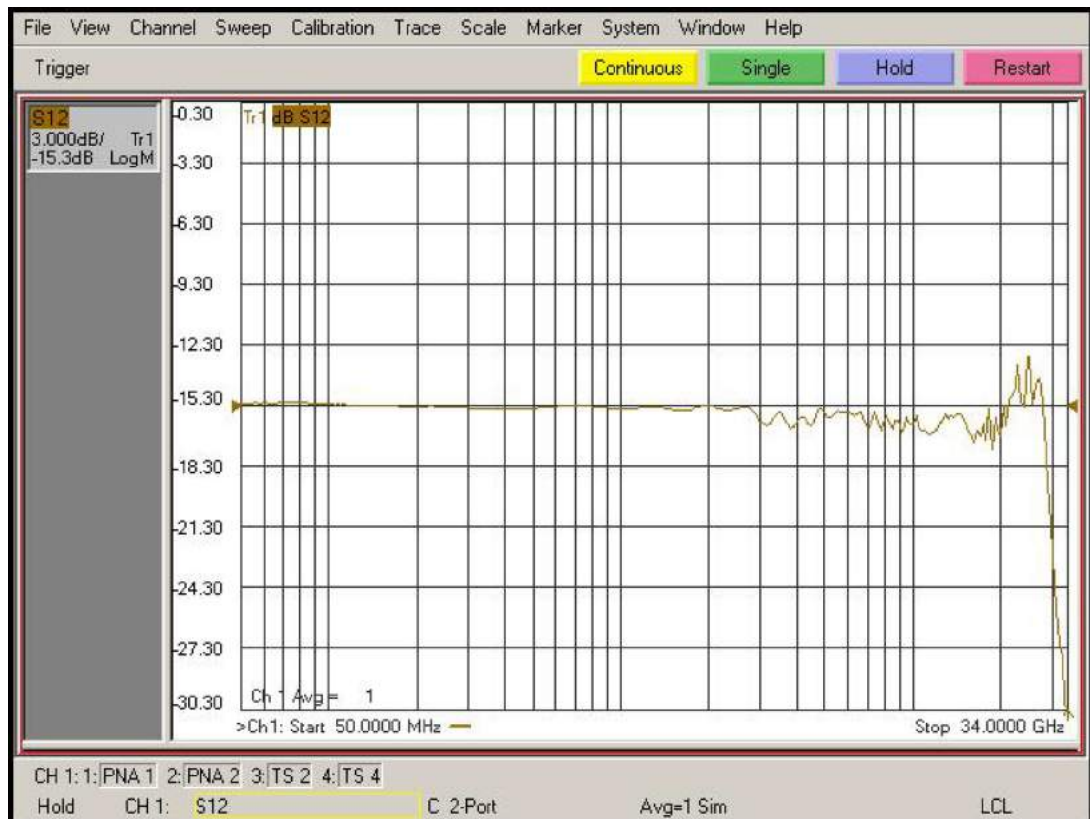

Figure 66 De-embedded “Vout” trace
- c Display should look like **Figure 66**. If it looks noticeably different, the probe tip wires may not be making contact under the pinchers.